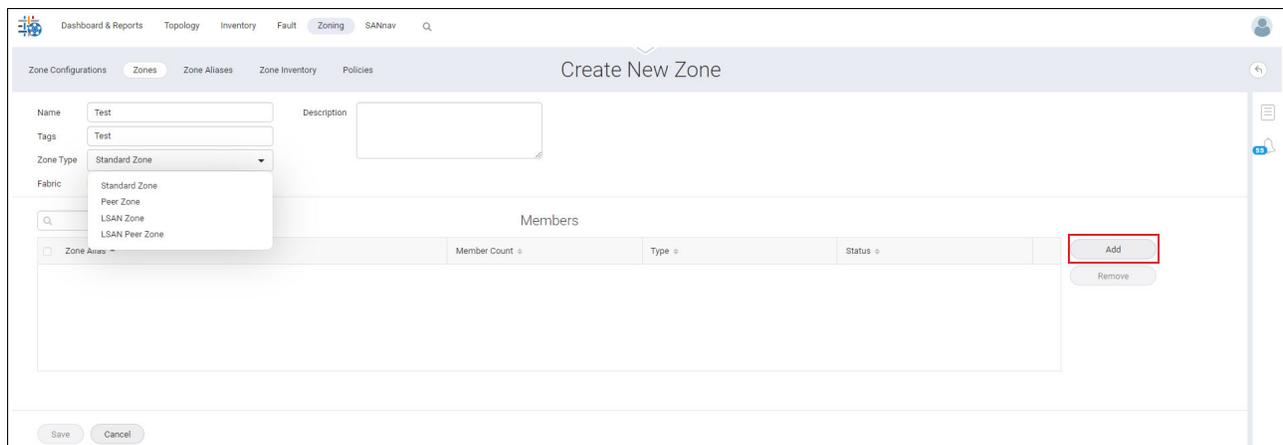

Figure 5-30 Creating a zone
5. Select the zone type from the **Zone Type** drop-down menu (Figure 5-30). If the zone type is other than standard, peer, LSAN, or LSAN peer, you cannot delete or edit a zone.